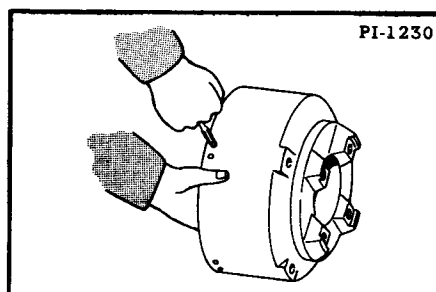

Fig. 156 Tapping Set Screw Holes
6. Drill the eight holes with a number 7 (.201") drill and run a 1/4" by 20 tap through them (Figure 156). Start 1/4" set screws in the holes, but be sure they do not extend inside the bell housing.